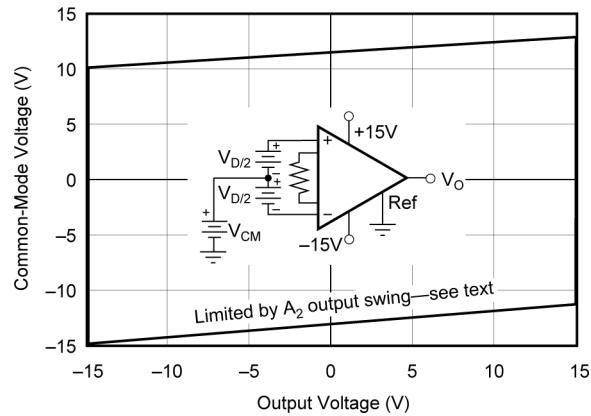

Figure 5-5. Input Common-Mode Range vs Output Voltage,  $V_S = \pm 15\text{V}$ ,  $G = 5$
(1) Input voltage range of the INA122 input stage. The input range depends on the common-mode voltage, differential voltage, gain, and reference voltage. See *Typical Characteristic* curves Figure 5-5 and Figure 5-6 for more information.(2) The values specified for  $G > 5$  do not include the effects of the external gain-setting resistor,  $R_G$ .